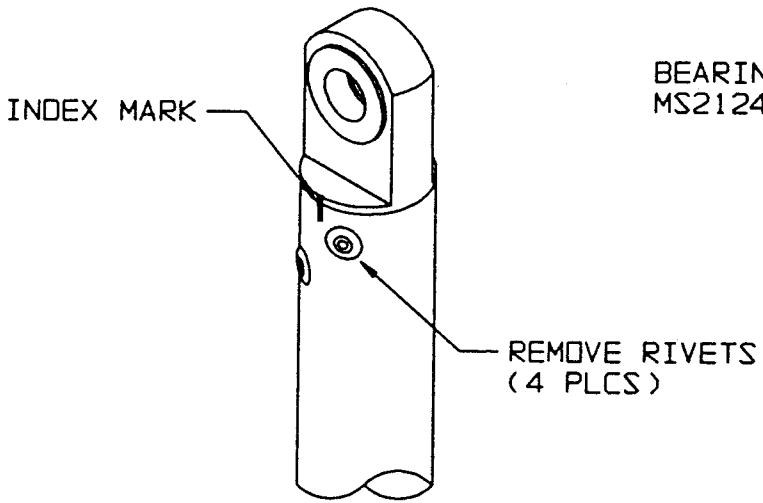

FIGURE 1
3. Index mark the location of the end fitting in the control rod (See Figure 1).
4. Remove the rivets securing the end fitting in the control rod and remove the end fitting (See Figure 1).